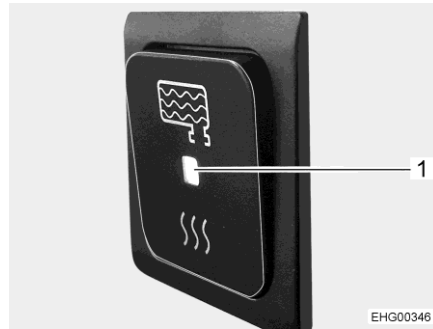

Fig. 66 On/Off switch, switched on
If the On/Off switch of the control has been switched on (Fig. 66), the waste water tank heater switches on automatically as soon as the external temperature drops below 0 °C. This protects the waste water tank from frost.
- Press lower part of the On/Off switch. The LED indicator (Fig. 66,1) is lit.
- Press upper part of the On/Off switch. The LED indicator (Fig. 66,1) goes out.